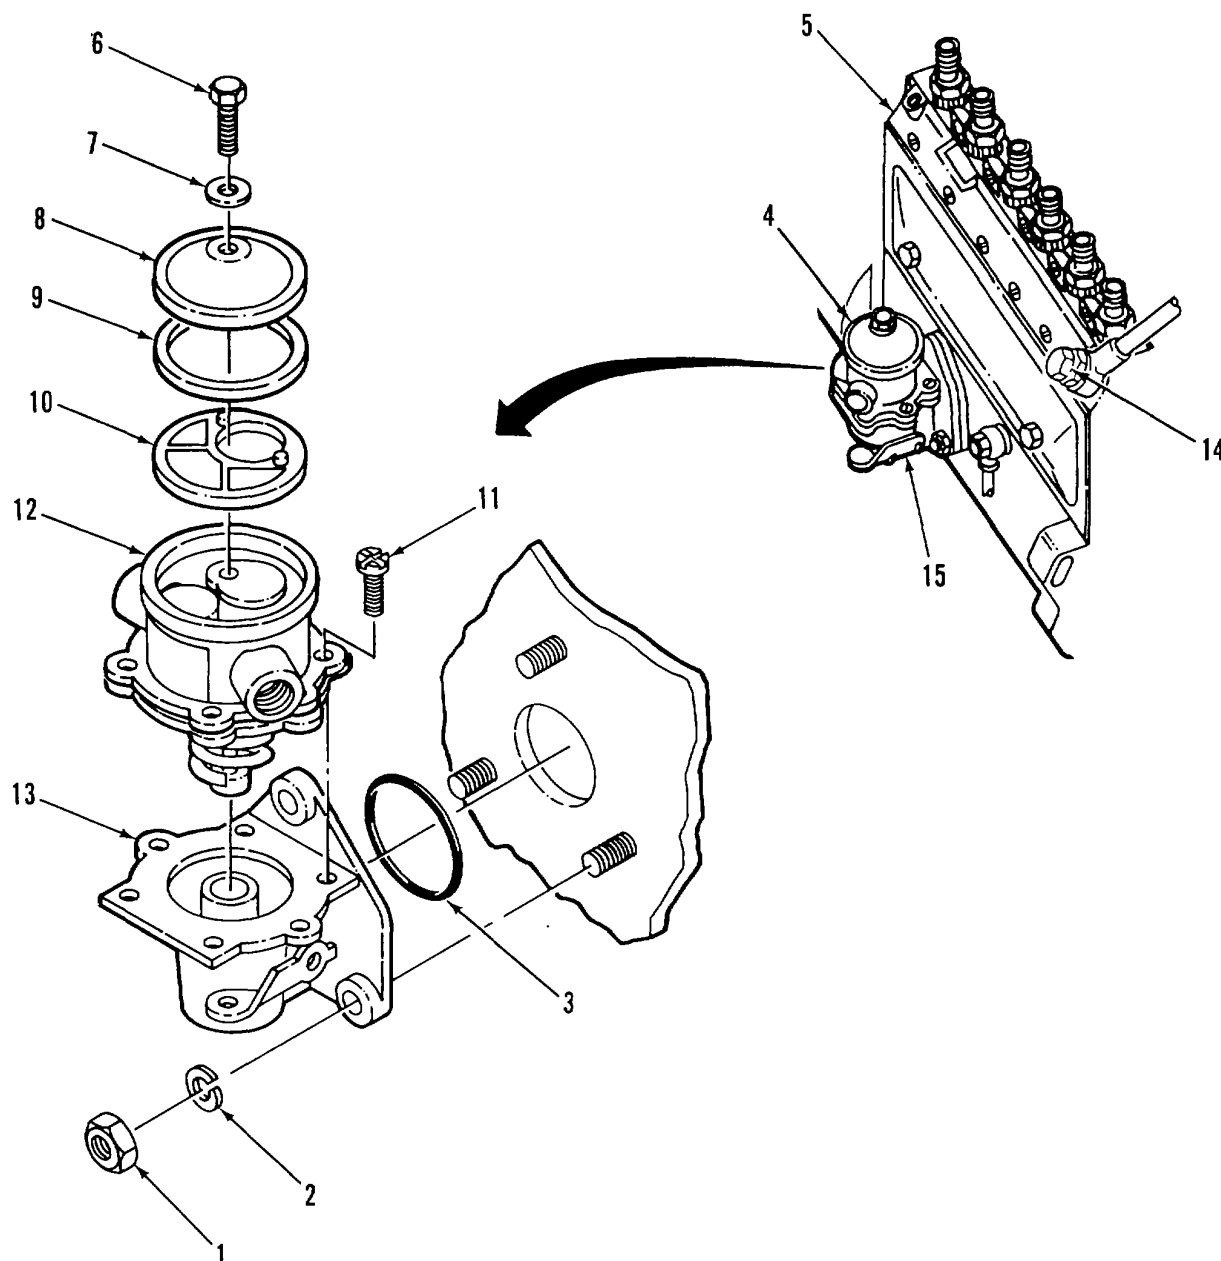

Figure 2-39. Fuel Supply Pump
a. REMOVE. (Figure 2-39)
- (1) Remove nuts (1), lockwashers (2), O-ring (3), and fuel supply pump (4) from fuel injection pump (5).
- (2) Discard O-ring (3).